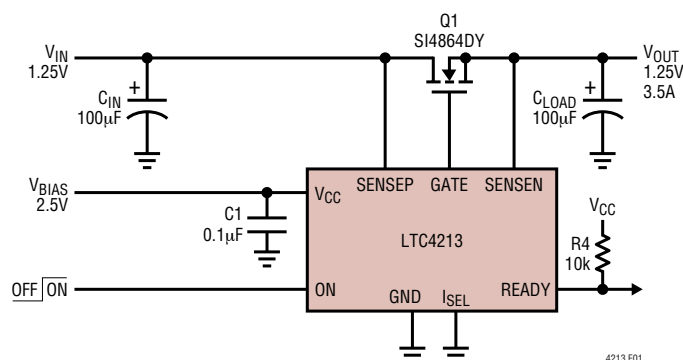
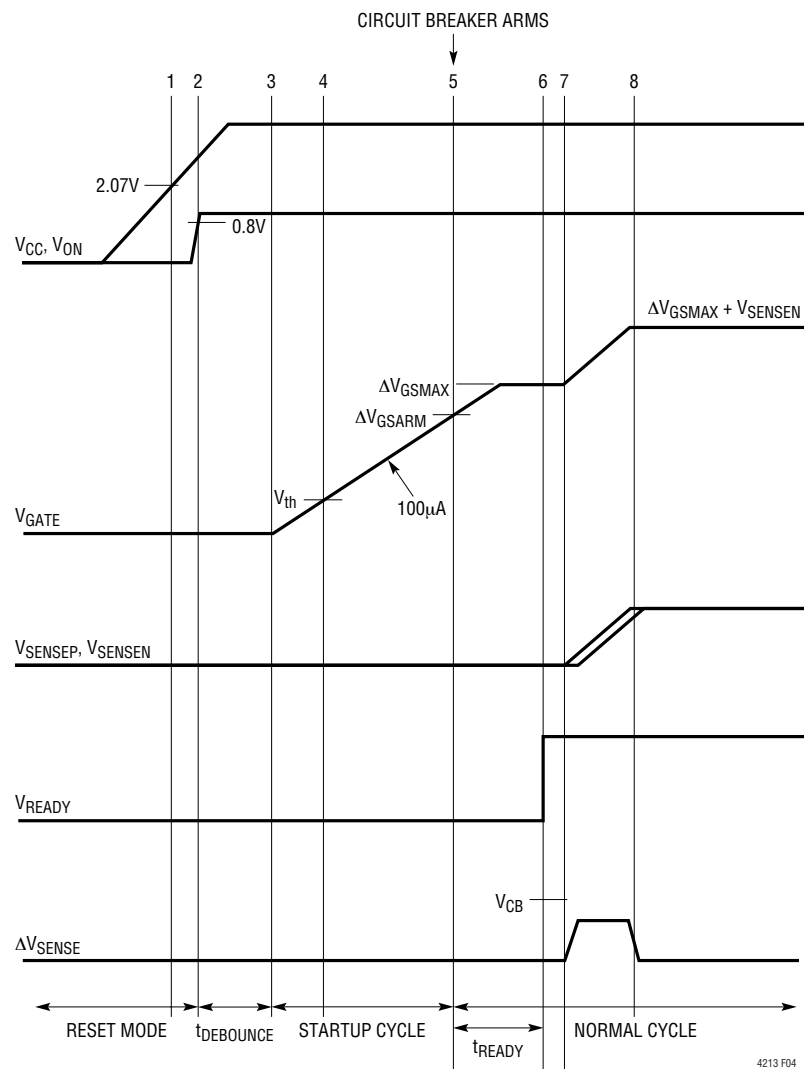
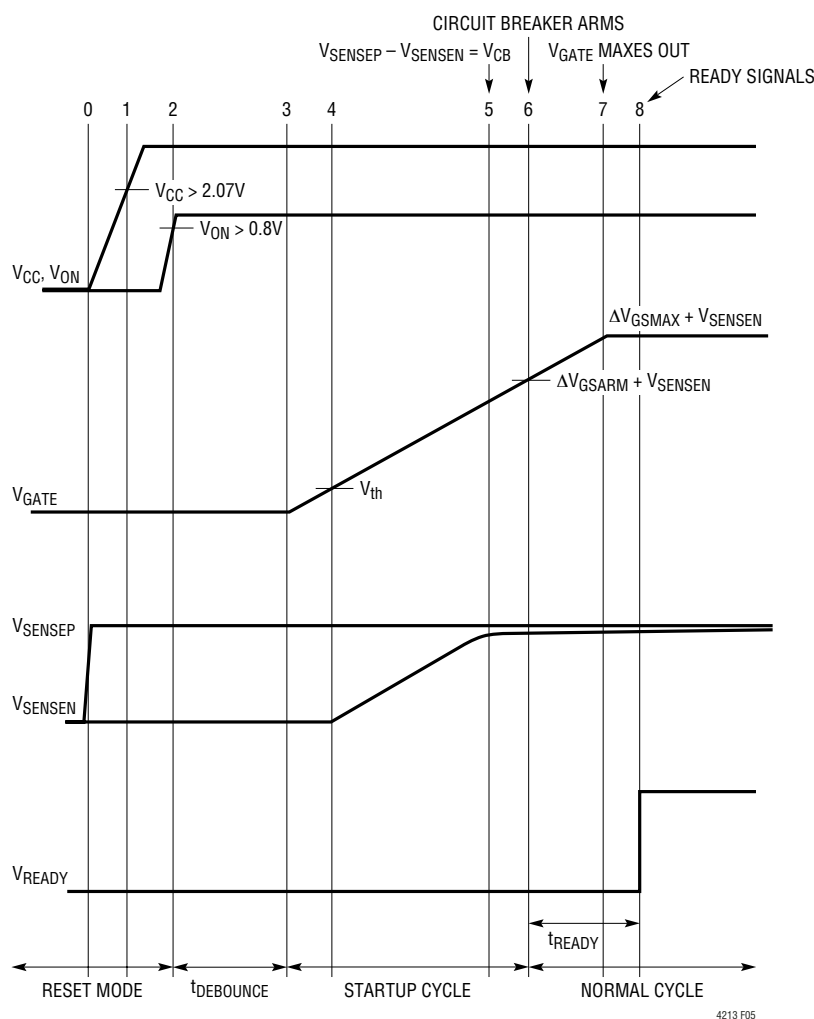

Figure 1. LTC4213 Electronic Circuit Breaker Application
Figure 4. Load Supply Power-Up After Circuit Breaker Armed
Figure 5. Load Supply Power-Up Before  $V_{CC}$
Figure 1 shows an electronic circuit breaker (ECB) application. An external auxiliary supply biases the  $V_{CC}$  pin and the internal circuitry. A  $V_{IN}$  load supply powers the load via an external MOSFET. The SENSEP and SENSEN pins
Figure 4 shows a normal power-up sequence for the circuit in Figure 1 where the  $V_{\text{IN}}$  load supply power-up after circuit breaker is armed.  $V_{\text{CC}}$  is first powered up by an auxiliary bias supply.  $V_{\text{CC}}$  rises above 2.07V at time point 1.  $V_{\text{ON}}$  exceeds 0.8V at time point 2. After a 60 $\mu\text{s}$  debounce delay, the GATE pin starts ramping up at time point 3. The external MOSFET starts conducting at time point 4. At time point 5,  $V_{\text{GATE}}$  exceed  $\Delta V_{\text{GS(ARM)}}$  and the circuit breaker is armed. After 50 $\mu\text{s}$  ( $t_{\text{READY}}$  delay), READY pulls high by an external resistor at time point 6. READY signals the  $V_{\text{IN}}$  load supply module to start its ramp. The load supply begins soft-start ramp at time point 7. The load supply ramp rate must be slow to prevent circuit breaker tripping as in equation (8).
Referring back to Figure 1, the  $V_{IN}$  load supply can also be powered up before  $V_{CC}$ . Figure 5 shows the timing diagram with the  $V_{IN}$  load supply active initially. An internal circuit ensures that the GATE pin is held low. At time point 1,  $V_{CC}$  clears UVLO and at time point 2,  $ON$  clears 0.8V. 60 $\mu$ s later at time point 3, the GATE is ramped up with 100 $\mu$ A. At time point 4, GATE reaches the external MOSFET threshold  $V_{TH}$  and  $V_{OUT}$  starts to ramp up. At time point 5,  $V_{SENSEIN}$  is near its peak. At time point 6, the circuit breaker is armed and the circuit breaker can trip if  $\Delta V_{SENSE} > V_{CB}$ .
There is no current limit monitoring during output charging for the figure 5 power-up sequence where the load supply is powered up before  $V_{CC}$ . This is because the GATE voltage is below  $\Delta V_{GSARM}$  and the MOSFET may not reach the specified  $R_{DS(ON)}$ . The  $V_{IN}$  load supply should have sufficient capability to handle the inrush as the output charges up. For proper startup, the final load at time